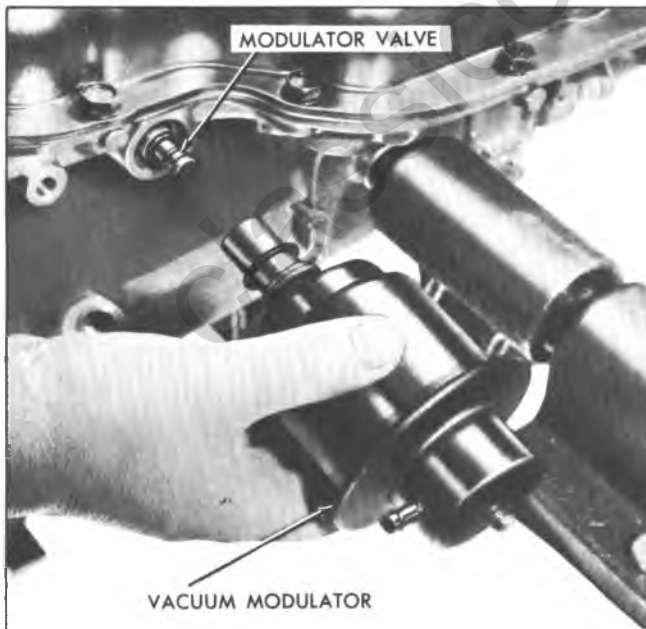

Fig. 153T--Installing Vacuum Modulator and Valve
1. Install modulator valve into case, stem end out (fig. 153T).